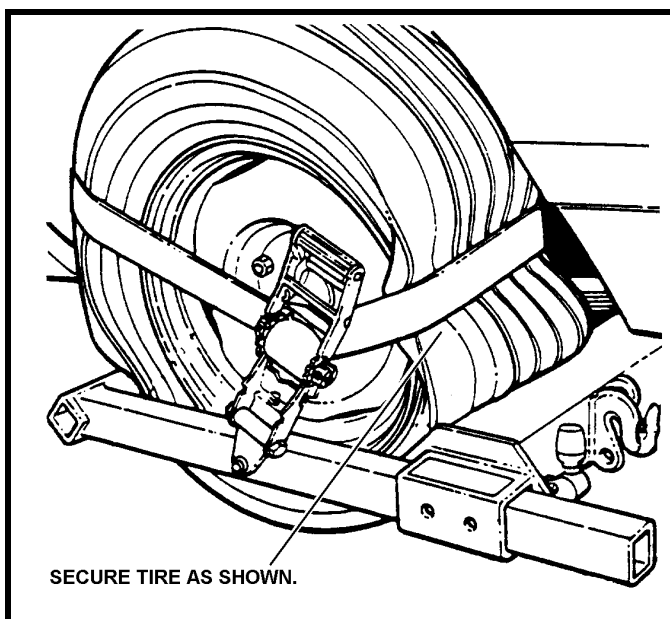

FIGURE 4A.15
- (n) When tightening Safety Strap around a flat tire be certain it has the tire completely collapsed. This ensures proper installation of the strap on a flat tire. See Figure 4A.15.